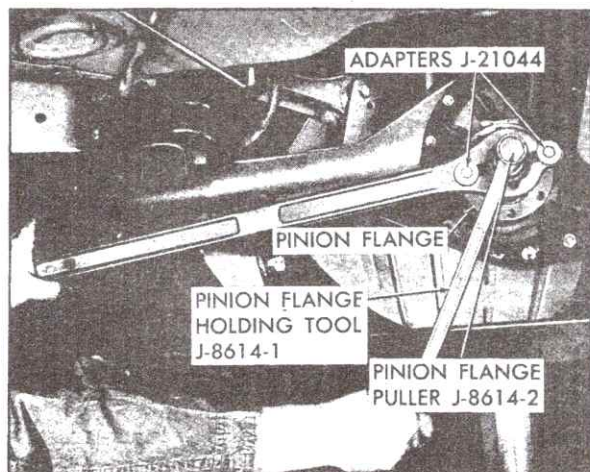

Fig. 4-41 Removing Pinion Flange
8. Install Rear Axle Pinion Flange Puller, J-8614-2, through hole in Holding Tool, index puller 45° and remove pinion flange from pinion shaft, Fig. 4-41.